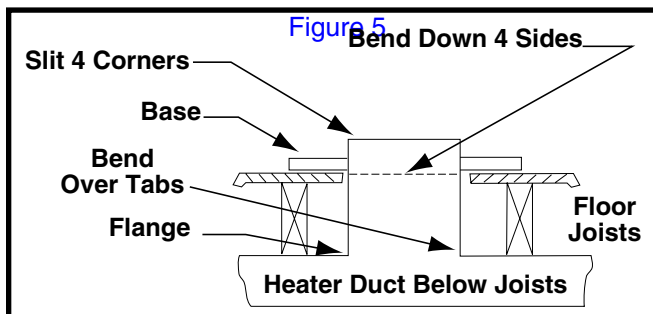

Figure 5. Transition Duct
5. Drop transition duct upside down through the floor opening and center the top of the feeder duct in 14-1/8" x 14-1/8" floor opening as shown in Figure 5 \(page 9\). Using the feeder duct as a guide, mark and cut a 12" x 12" opening in the supply duct.
5. Set the universal base in place. Drop transition duct upside down through the floor opening and center the top of the feeder duct in 14-1/8" x 14-1/8" floor opening. See Figure 5 \(page 9\).